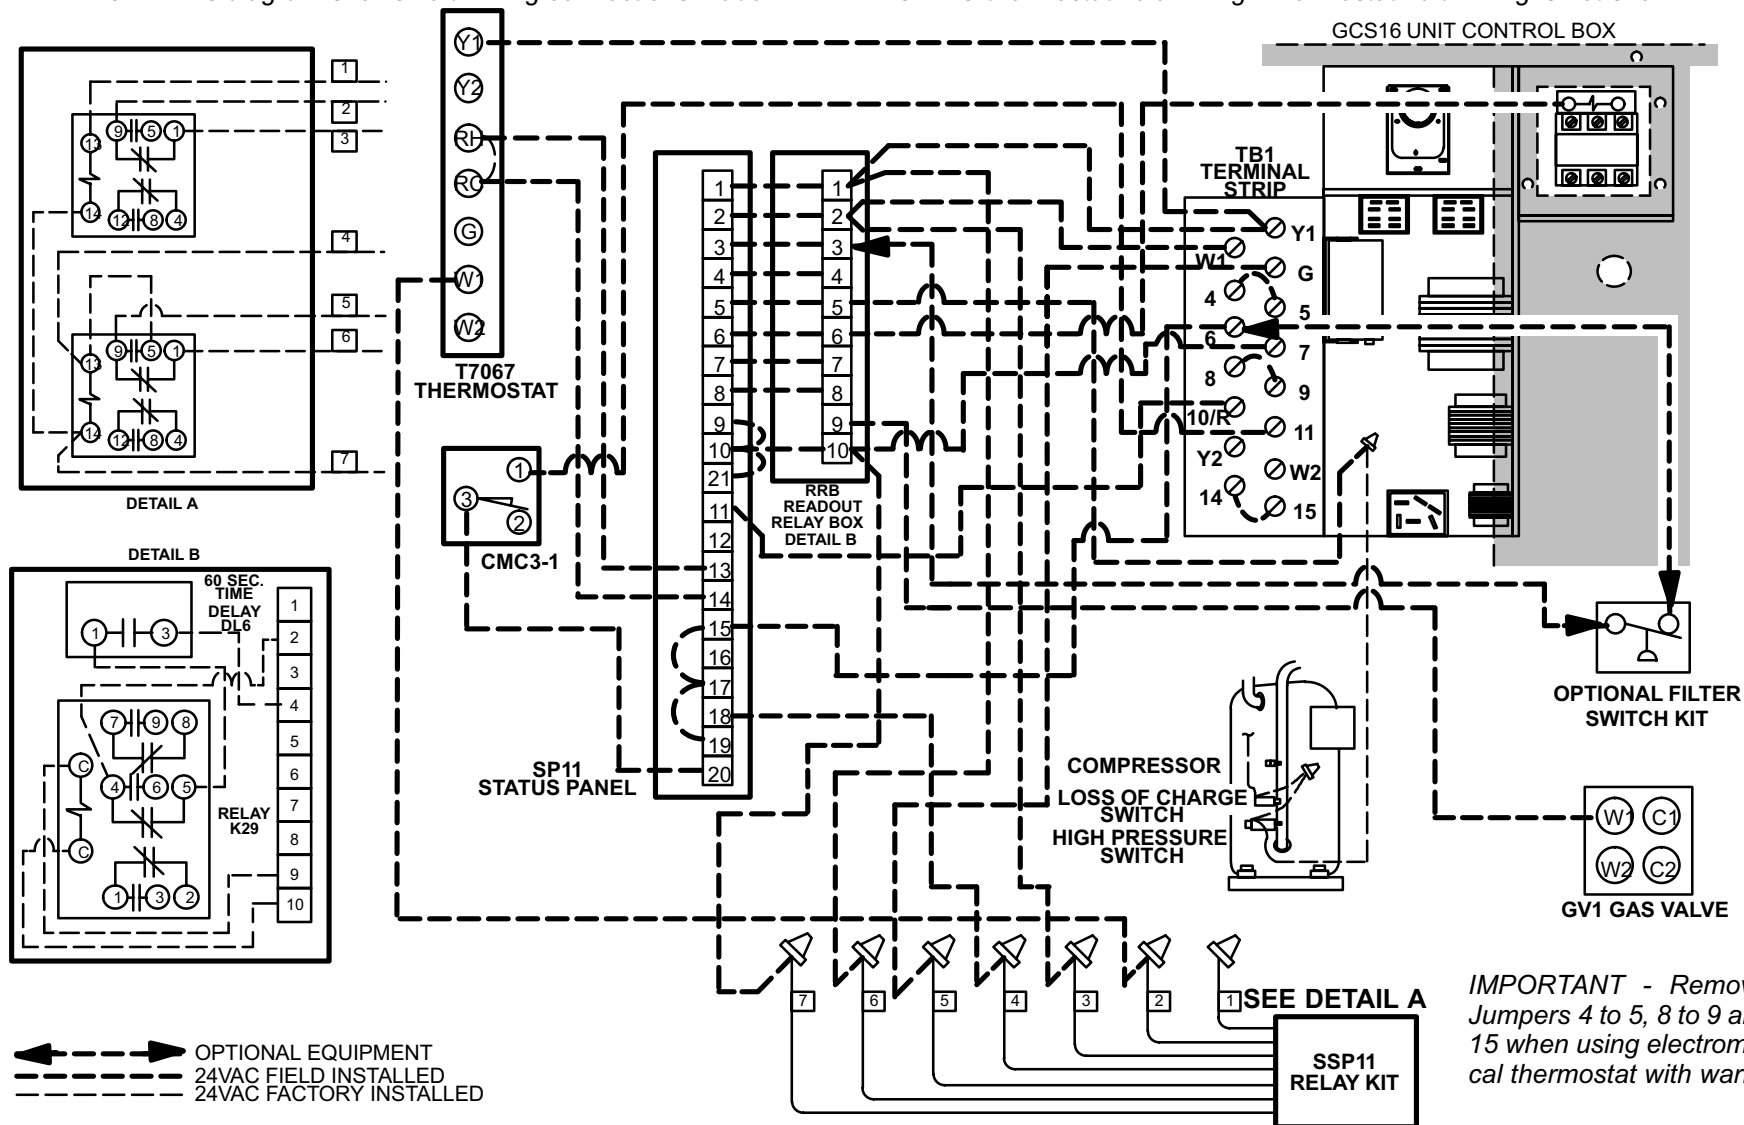

FIGURE 80
- 2- Make electrical connections as shown in figures 80 and 81.